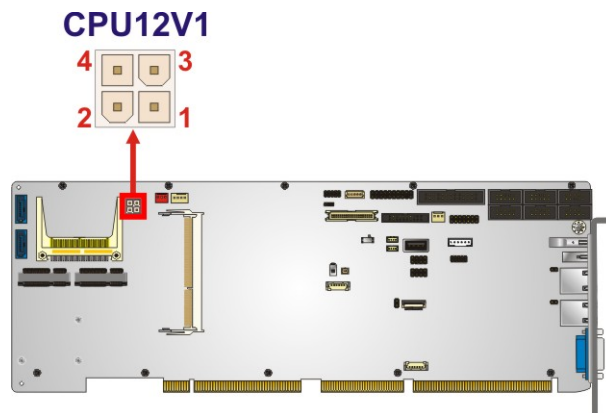

Figure 3-6: CPU Power Connector Location
- CN Location:** See **Figure 3-6**